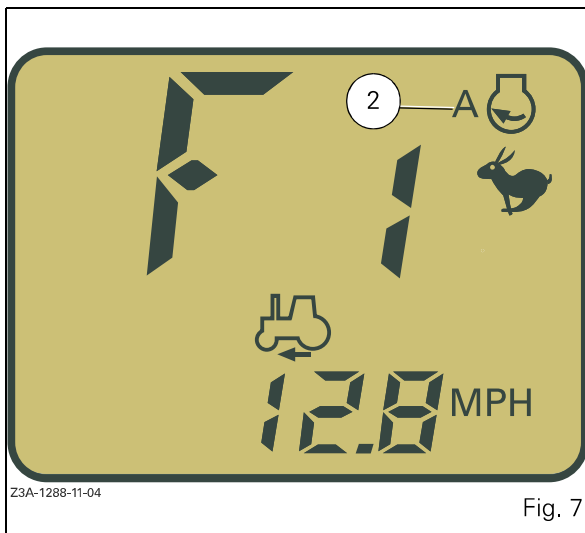

Fig. 7
- The engine symbol appears on the digital display, along with the letter A or B, indicating the active memorised engine speed (e.g.: memorised speed A (2 Fig. 7)).